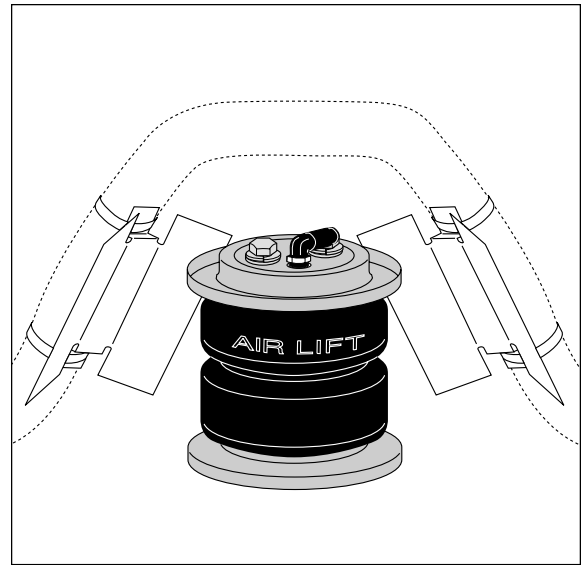

Figure 5
9. **IMPORTANT:** Installation of this kit requires two exhaust heat shields (Figure 5). The shields (P) are attached with the stainless steel clamps (Q) to the exhaust pipe, with the flanges being bent inward. Shields may be trimmed or bent to attain component clearance. Bend tabs to provide $\frac{1}{2}$ " dead air space between exhaust pipes and heat shield and maximum clearance with bellows.